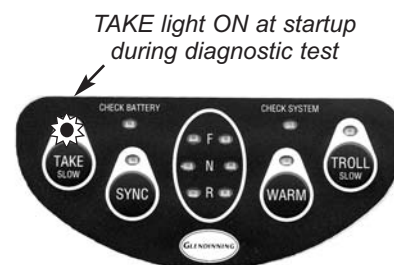

FIG. 2 TAKE & WARM lights fully illuminated
2. Turn ON the EEC3 enable switch. The system will perform a brief diagnostic test (approx. 1 second), checking various system parameters (indicated by the TAKE light fully illuminated - see FIG. 2). Control handles should remain in **NEUTRAL** until system is operational.